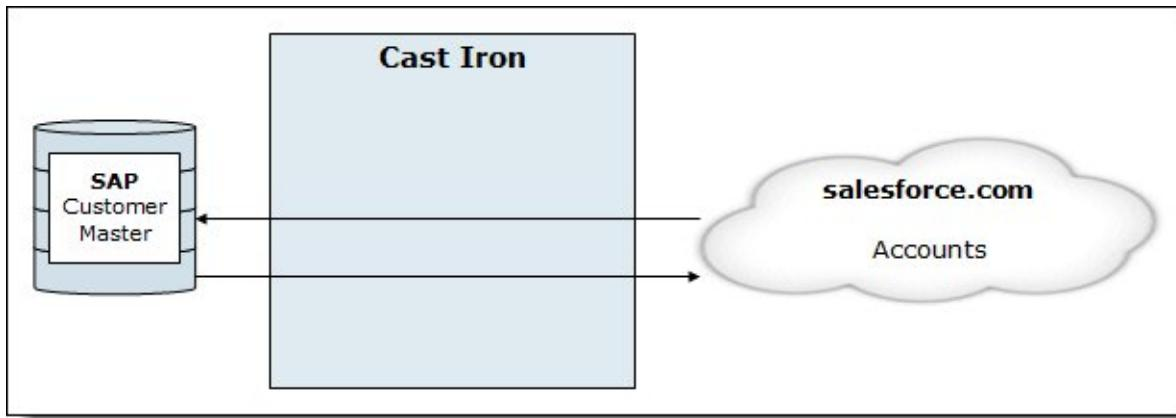

Figure 2. WebSphere Cast Iron solution
The WebSphere Cast Iron solution (shown in Figure 2) provides an approach to integrating applications that does not require any programming knowledge. You can build integration flows in WebSphere Cast Iron Studio, which is a graphical development environment that is installed on a personal computer (PC). With WebSphere Cast Iron Studio, you create an *integration project* that contains one or more *orchestrations*. Each orchestration is built with several *activities* that define the flow of data. You can define the details of an activity from the configuration panes within WebSphere Cast Iron Studio.